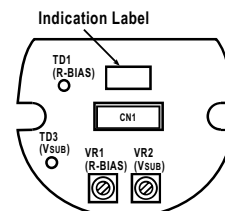

Fig. 4-1
- Check the Rank letter on the Sensor Board as shown in Fig. 4-1.